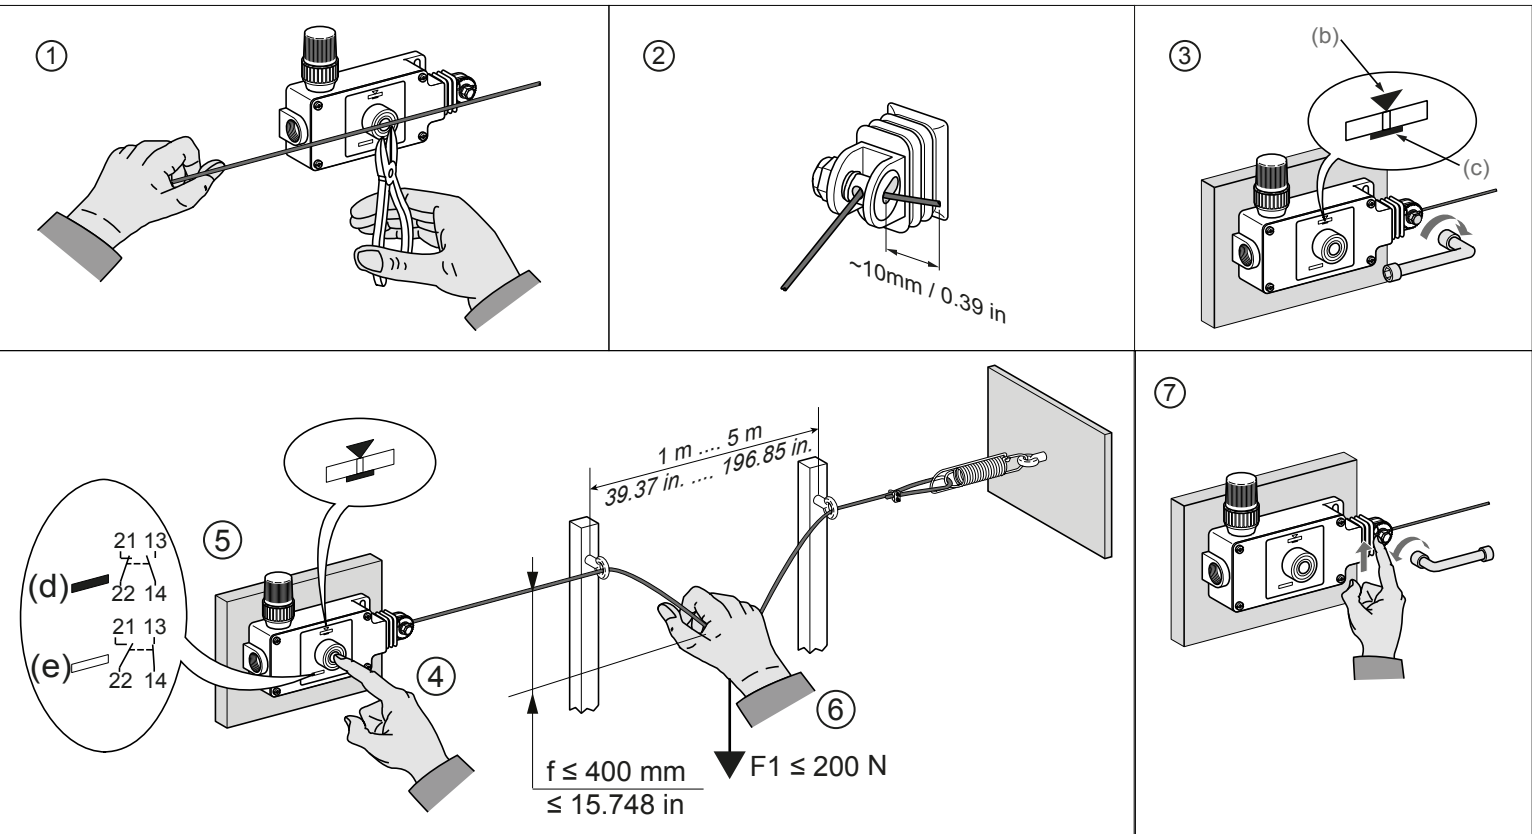
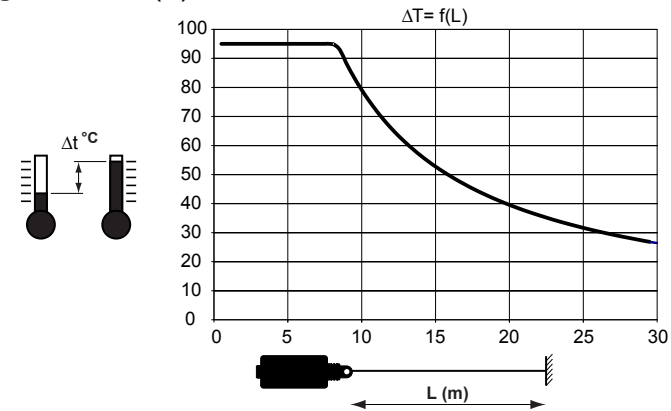

Fig. 3 $\Delta T = f(L)$
Fig. 4
4. Arm the device by pressing the switch: you should hear a "click" ❹.
5. Actuate the device by pulling the cable ❺.
7. Check the position of the index ❸ and repeat steps 3 to 6 if required. (d): green - (e): yellow
8. To release the cable: push the hooking ring with your finger ❻, then untighten the nut as required, based on the maximum allowable operating temperature variance (fig. 3) and take into account the table from the fig. 4.